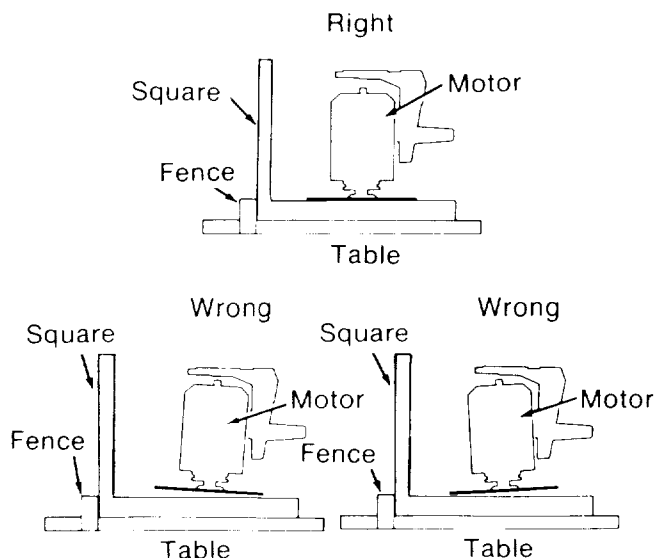

Fig. 80
8. If the square is flush with the *blade* after each rotation (Figure 80) go to step 18, or
- If there is a gap between the square and the *blade* after any rotation (Figure 80) go to step 9.